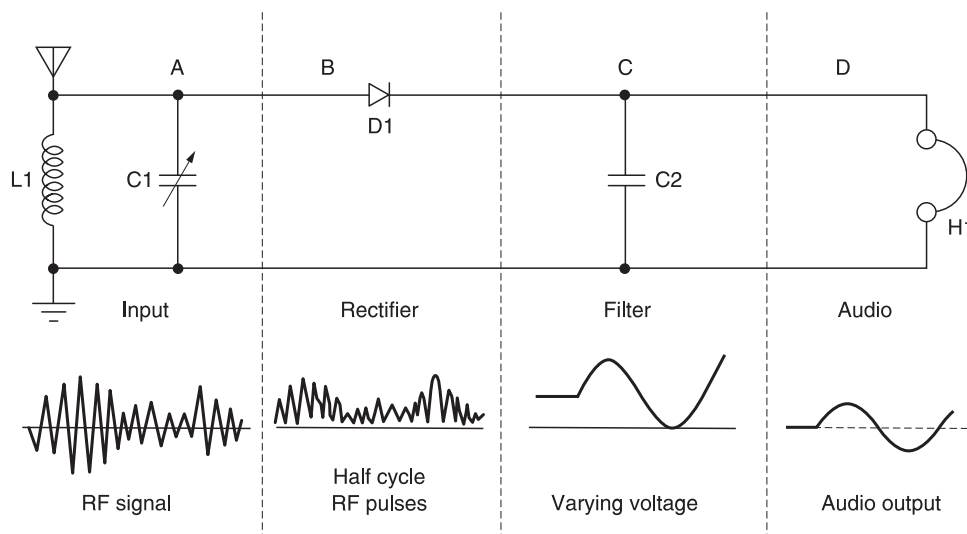
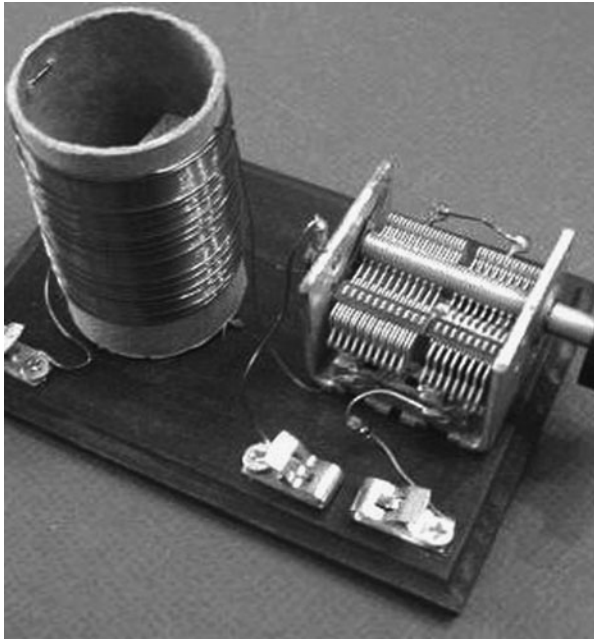

Figure 4-2 Basic crystal radio
Figure 4-3 AM crystal radio
The diagram shown in Figure 4-2 illustrates a basic crystal radio. In its simplest form, a crystal radio is composed of just our main components. A good antenna, a detector, a filter capacitor and pair of headphones. The basic diagram shows the input section at (A), the rectifier section at (B), the filter section at (C) and finally the headphones at section (D).
capacitor is connected in parallel with an inductor and an alternating voltage applied across the combination, alternating current will flow. The amount of current that flows depends upon the frequency of the applied voltage. At a particular frequency, called the resonant frequency, almost no current flows. For frequencies above or below the resonant frequency, significant current will flow. In Figure 4-2, capacitor C1 plus the aerial capacitance forms the capacitor of our tuned circuit, while L1 forms the inductor. At the resonant frequency of the tuned circuit, almost no current flows to earth through L1 or C1, leaving virtually all of it free to flow through the detector. Alternating currents at broadcast frequencies either above or below the resonant frequency will tend to flow through C1 or L1 to earth. Thus we have added selectivity to the receiver. Notice that C1 is adjustable, as signified by the arrow. By varying C1 we can tune the receiver to select specific broadcast frequencies.
Let’s construct a simple crystal radio. In order to build the crystal radio shown in Figure 4-3, you will need to secure some tools and supplies. First you will need to find a clean well lit work bench or table to spread out all your tools, charts, diagrams and components. You will also need to secure a soldering iron, some 60/40 rosin core solder and a small jar of “Tip Tinner,” a soldering iron tip cleaner/dresser, obtainable from your local Radio Shack store. You will also want to locate some small tools such a pair of end-cutters, a pair of needle-nose pliers, a magnifying glass and a set of Phillips and flat-blade screwdrivers for this project. Grab the crystal radio schematic, see Figure 4-2, and the resistor and capacitor identification charts, and place them in front of you, so we can get started building the project. The resistor identification chart in Table 4-1 will help you
As this project will not require a circuit board, we will build the crystal radio on a 6" x 6" x 3/4" wood block base. You can elect to use an additional piece of wood at a right angle to the base as a front panel to secure the tuning capacitor as shown in Figure 4-3.
Next, you will need to locate a plastic or cardboard tube approximately $3\frac{1}{2}$ to 4" long by 2" in diameter on which to wind your coil. Punch a hole at both ends of the tube about $\frac{1}{2}$ " from the actual end of the tube. Start winding the coil at one end of the tube using #24 ga. enameled wire, leave about 6" of wire free at the first hole to allow connection to the circuit. Wind the coil with each winding touching the previous winding but not overlapping the prior winding. Wind about 150 turns of wire across the length of the tube. After winding about 150 turns take the free end of the remaining wire and put it through the last punched hole, leave about 6" of wire so you can connect the coil to the circuit. When you are finished winding the coil, you can varnish the coil winding or just spray Krylon around the coil to keep the winding close to the coil, so they won't spread out or come loose. Fasten the coil to a 6" x 6" wood block; you can mount the coil upright as shown in Figure 4-3, or you can lay the coil down near one edge of the wood block and secure it to the block with some brackets or clips. You will have to use a knife and scrape off the enameled insulation of the two coil wires before you can fasten or solder them to the tuning capacitor. Now fasten the tuning capacitor to the wood block near the coil assembly, and wire the coil in parallel with the tuning capacitor. Next locate a germanium diode; make sure you use only a germanium diode and not the more common silicon diode. Remember to observe the correct polarity when connecting the diode in the circuit, the black to white colored band is the cathode lead. The cathode end of the diode points to the headphone in the circuit diagram. The anode side of the diode connects to one end of the "tank" or coil/capacitor and the cathode side of the diode connects to capacitor C2 and one end of the high impedance headphones. The free end of the headphones connects to the remaining end of the capacitor at C2 which connects to the free end of the "tank" circuit. You can connect the headphones via a terminal strip, a Fahnestock clip or headphone jack mounted on the wood block. Crystal radios generally require high impedance headphones, so you must use either a small crystal headphone or a pair of older high impedance (2000) ohm headphones; these are still available through EBAY or from Antique Electronics.